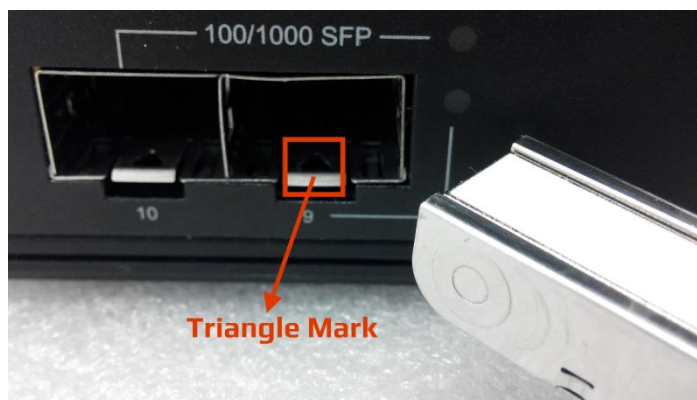
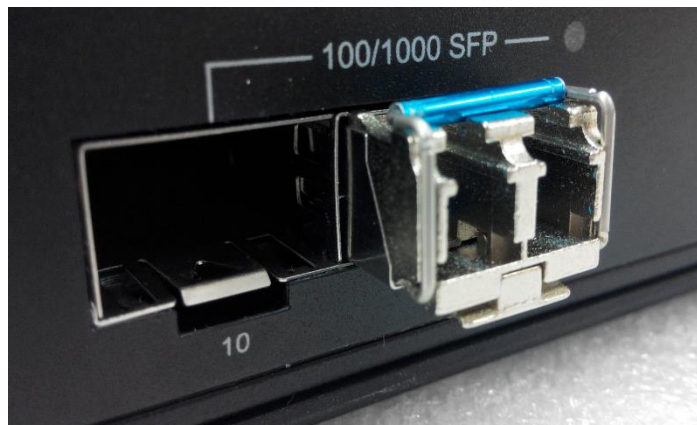

Figure 2.9: Transceiver to the SFP Module
Figure 2.10: Transceiver Inserted
Step 1. Insert the SFP transceiver module into the SFP slot as shown below in Figure 2.9. Notice that the triangle mark is at the bottom of the SFP slot. Figure 2.10 shows SFP transceiver module was inserted.